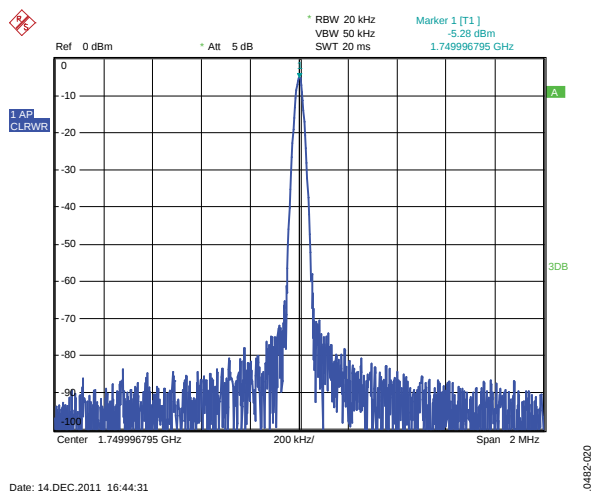
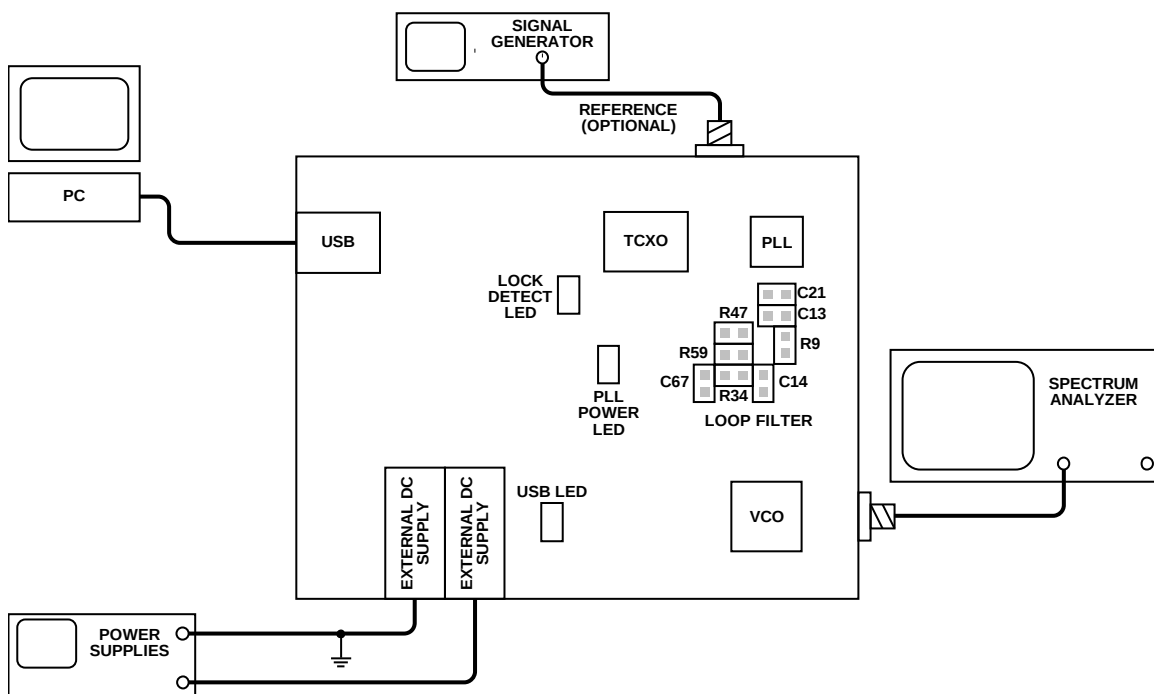

Figure 20. Spectrum Analyzer Display
Figure 21. Typical Evaluation Setup
7. In the software window, set the VCO center frequency (Figure 20 shows a screenshot of a spectrum analyzer taken at a frequency of 1750 MHz, which is in the middle range of the provided VCO). Set the PFD frequency as defined in ADIsimPLL, and program the reference frequency to 25 MHz if the on-board TCXO is used or to the frequency that has been supplied to the REFIN connector. See Figure 21 for the suggested setup.
8. Measure the output spectrum. Figure 20 shows a 1750 MHz output.